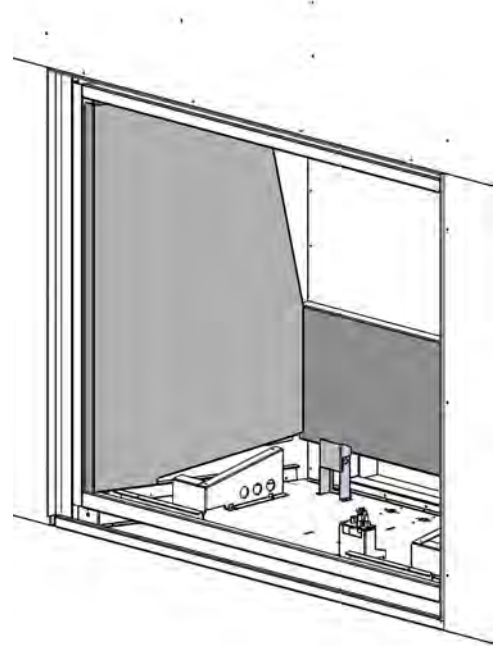

Figure 44: Rear & Left Porcelain Panels in Place.
2. Install the Left Firebox Liner Panel; it sits on the bottom front edge of the firebox (see Figure 44), a support bracket at the lower rear of the firebox, and is held in by a retainer at the top of the firebox. Adjust the panel retainers as required.